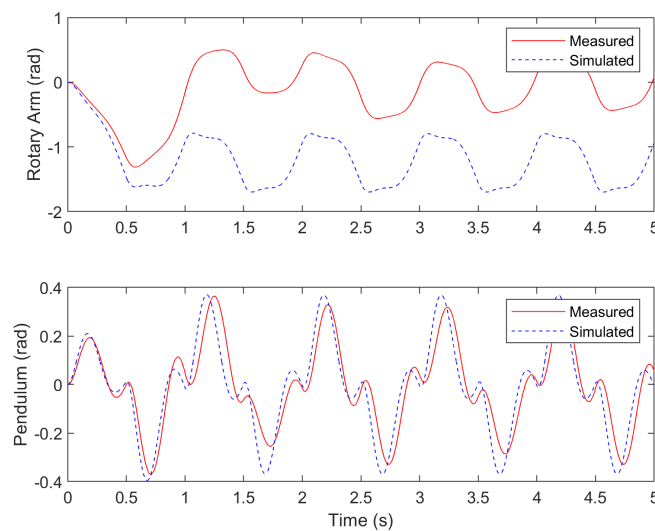

Figure Ans.2.1: Step response of the pendulum system.
- B-5 If the experimental procedure was followed correctly, the user should be able to run the model and obtain a response similar to Figure Ans.2.1.
- K-2 The rotary pendulum response is shown in Figure Ans.2.1. This can be generated using the MATLAB[®] script commands:
- B-9 The pendulum response of the model represents the actual pendulum system accurately because in the simulated response (blue) matches the measured response (red) quite well in Figure Ans.2.1.